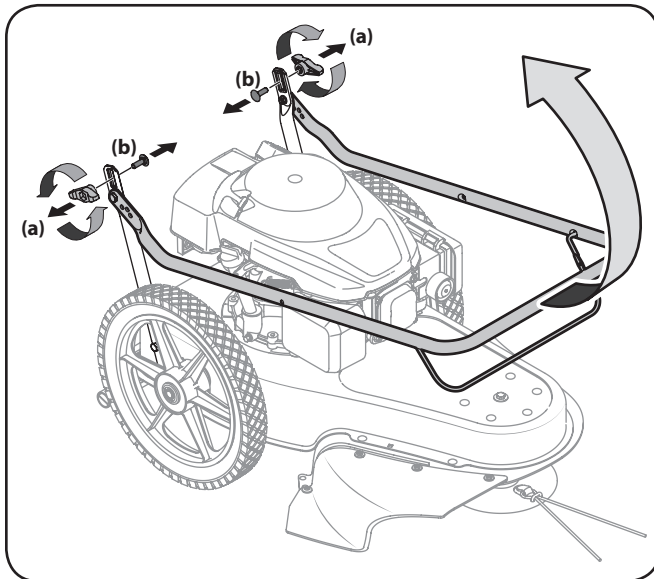

Figure 3-1
1. Remove the wing knob (a) and carriage bolt (b) from the left lower handle and the right lower handle. See Figure 3-1.
2. Pivot the upper handle into the operating position. See Figure 3-1.